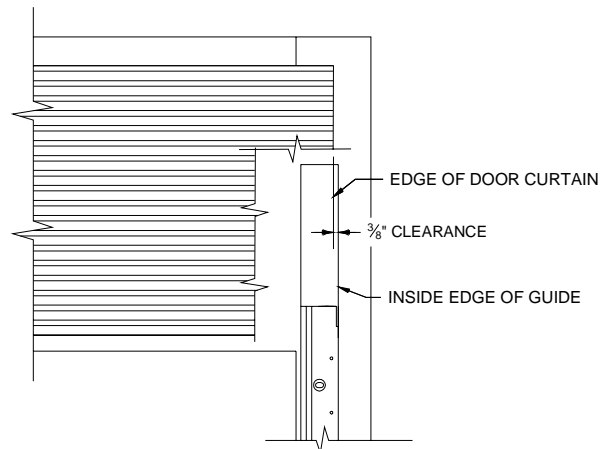
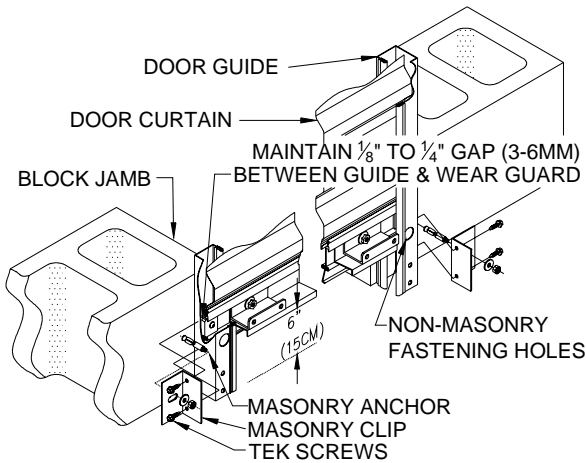

Figure 10.
Figure 11.
7.1 Position the guides against the jambs according to the clearance shown in Figure 10. Loosely fasten the guides to the jambs using a fastener in the top hole only. Guides will need slight adjustment therefore **DO NOT** install the balance of the fasteners until such time as the adjustment is true. Level one guide, and loosely install a second fastener in the bottom hole. If mounting to masonry, install clips provided as shown in Figure 11. Align the clips with the holes along the length of the guide and flush with the back of the guide. (Anchors by others).